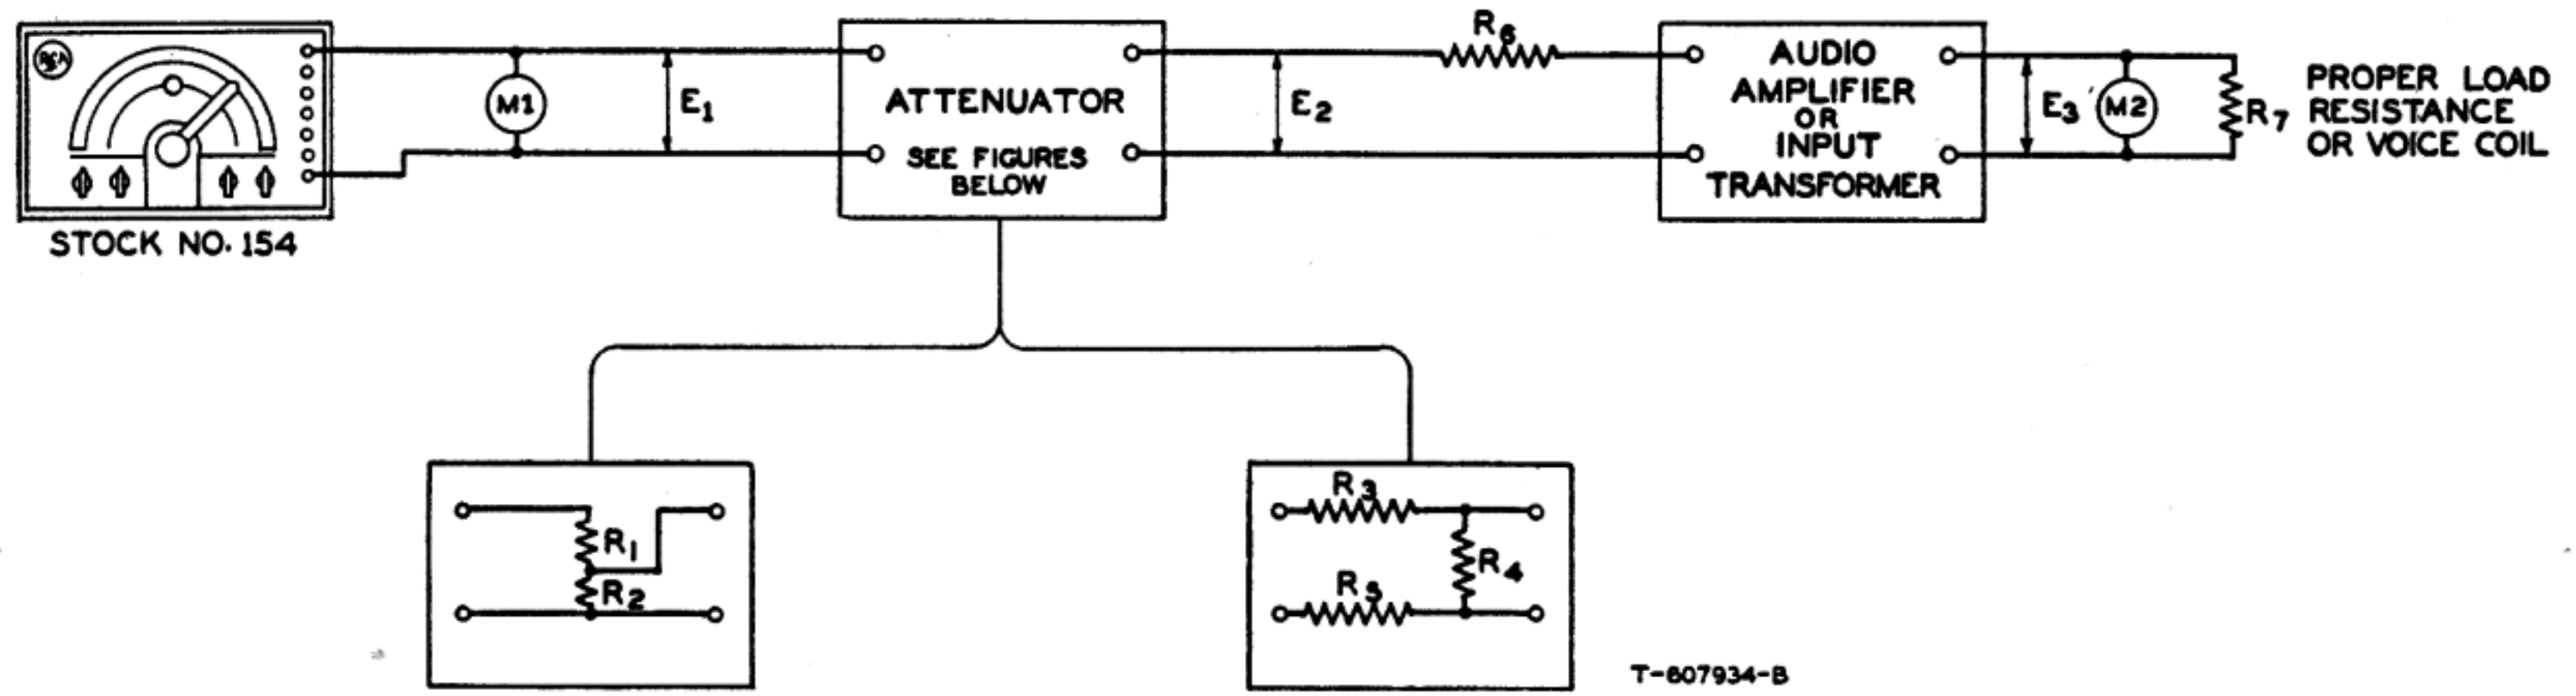

Figure 3—Connections for Measurement of Audio Amplifier Frequency Response
In measuring the frequency response of an audio amplifier, the test procedure is generally the same as for the fidelity of a radio receiver except that no r-f test oscillator is used. Figure 3 shows the general arrangement. The output of the beat-frequency oscillator may be fed directly into the input of the audio amplifier, or, when the input voltage required for the amplifier is so low that it is practically impossible to measure it with an ordinary voltmeter, an attenuator should be used. This will establish a definite ratio between the output voltage of the beat-frequency oscillator and the input voltage fed to the amplifier.
The voltage gain of an amplifier is the ratio of the output voltage to the input voltage. Using the attenuator, in which the values of R_1 and R_2 are known, the gain (G) may be calculated from the readings of the two meters in the circuits of Figure 3 by the formula:
The arrangement of Figure 3 for audio amplifiers also is applicable to input transformers. In such cases, the value of resistance (R_6) should be equal to the input impedance of the transformer, and the load on the secondary should be equal to the load into which it works. Where it connects directly to a tube, a vacuum-tube voltmeter will approximate the tube load and will be the only loading required. Normally, the step-up ratio is high, and an attenuator should be used. Calculations for gain will be the same as for amplifiers.